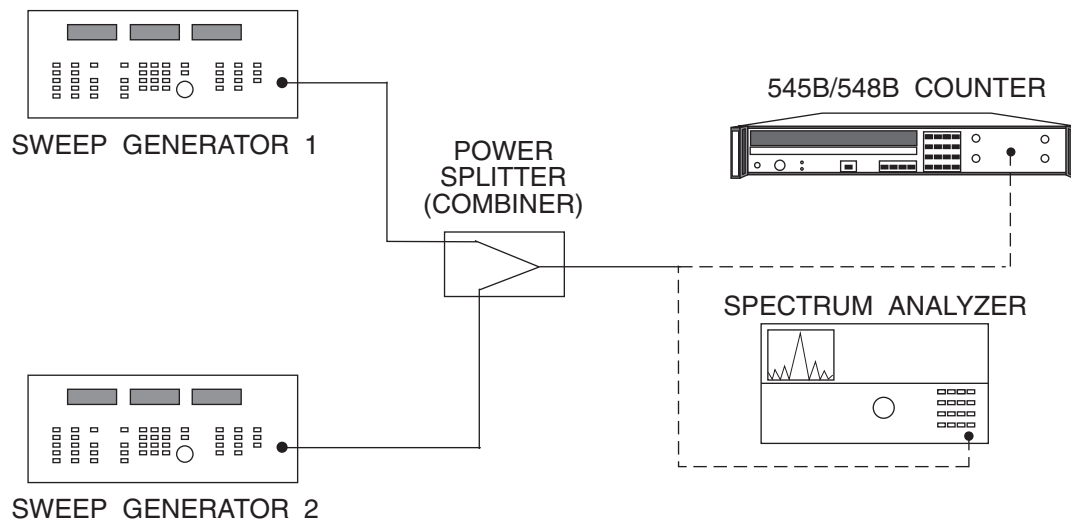

Figure 5-6. Band 3 Amplitude Discrimination Test Setup
1. Connect equipment as shown in Figure 5-6.